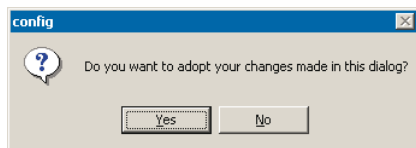

Figure 13.4 Save changes confirmation window
6. A confirmation window appears (Figure 13.4). Click **Yes**.